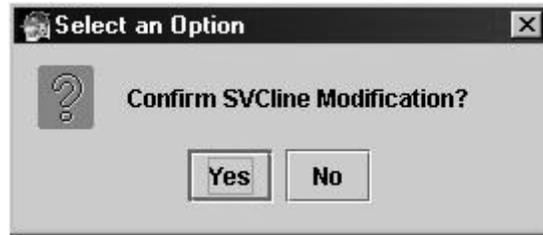

Figure 6-13: Confirm SVCLine Modification Dialog
3. Click **MODIFY**. The Select an Option dialog displays. See Figure 6-13.